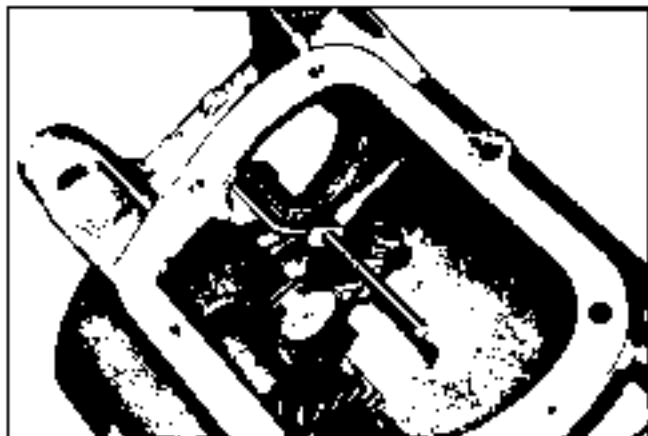

Fig. 7D-24 Checking Countergear End Play
14. Using heavy grease to retain the rollers, install a .050" spacer and 28 rollers in either end of the countergear, a .050" spacer, 28 more rollers and another .050" spacer (Fig. 7D-22).